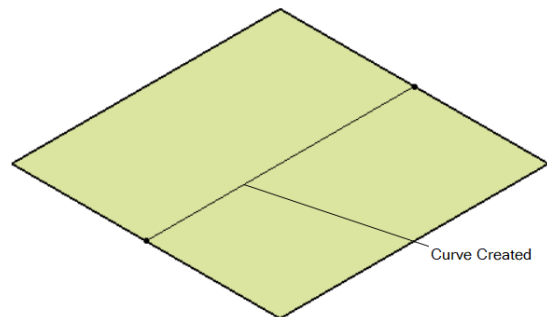

Figure 18-57 The curve created on the planar face
- Specify **0** and **1** as the value in the **U** and **V** spinner respectively and choose **OK** from this dialog box. Figure 18-57 displays the curve created on the planar face.